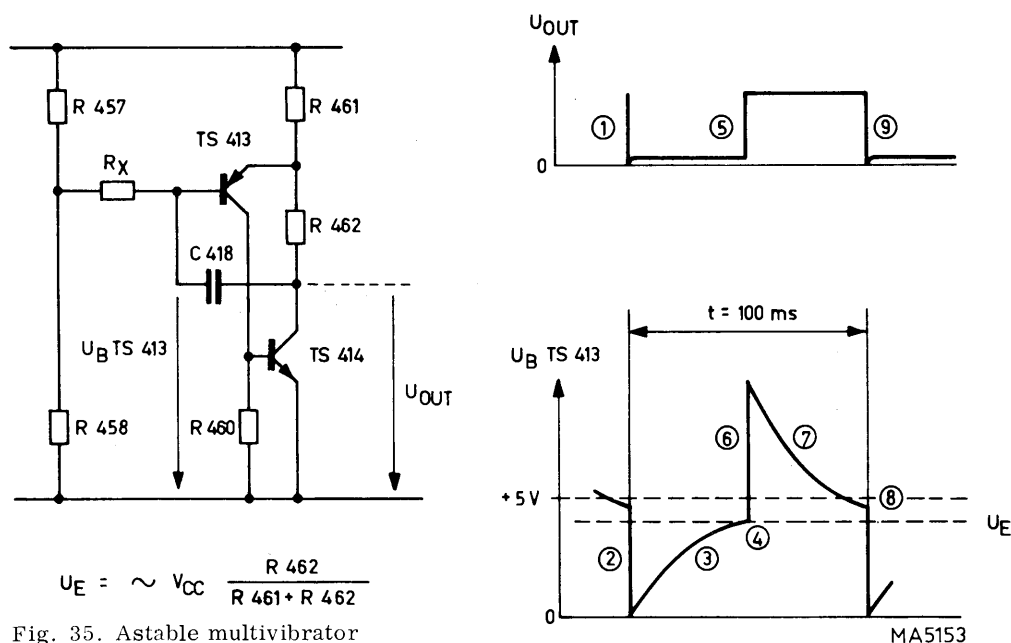

Fig. 35. Astable multivibrator
15. Clock pulse generator (Fig. 35 and 36)